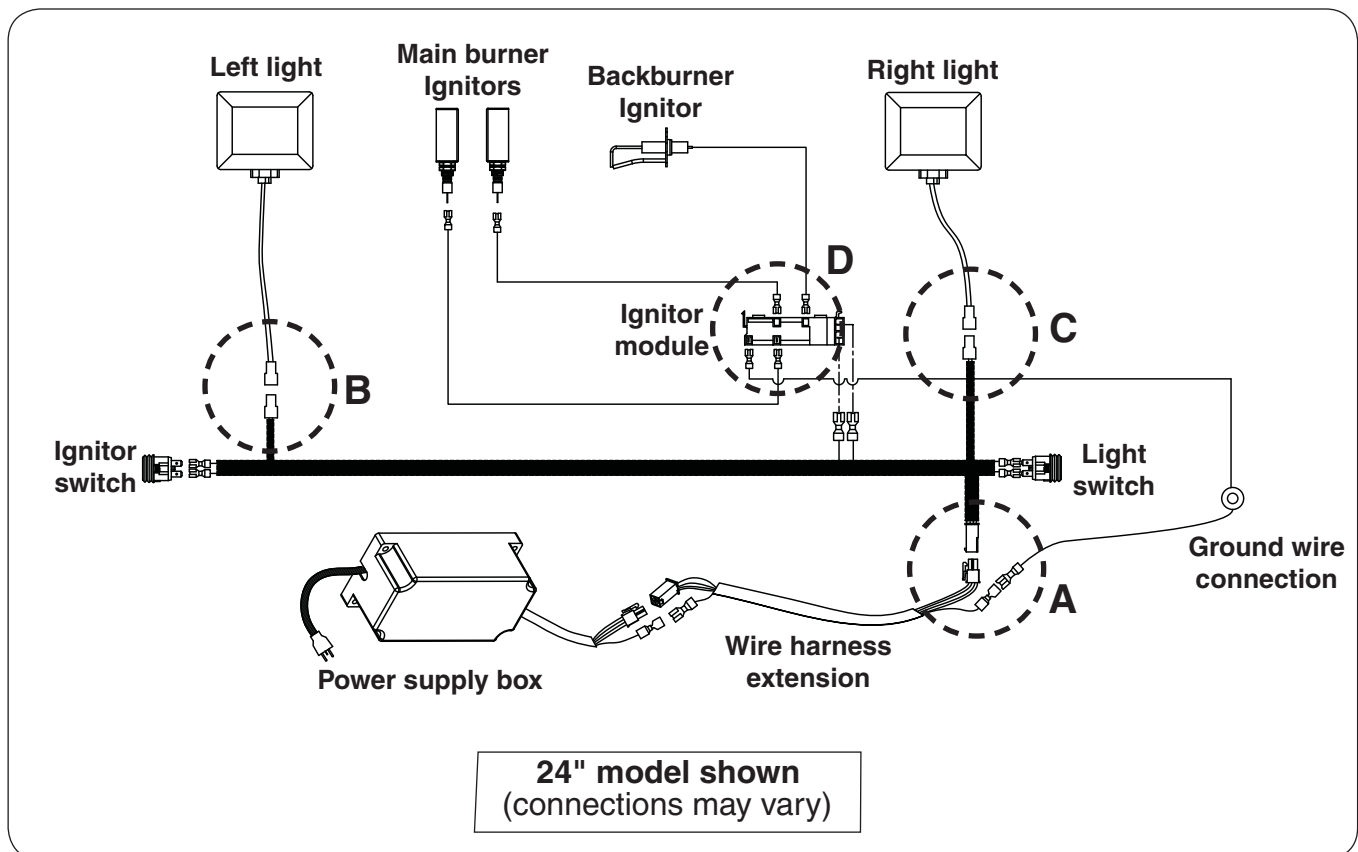

Fig. 32-1 - Wire diagram
2. Disconnect the main wire harness connections (A), the left light connection (B), the right light connection (C), and the ignitor wires (D). It is recommended to temporarily label the wires for reference when reconnecting. See Fig. 32-1. When disconnecting, be sure to pull from the connectors, and not the wires.